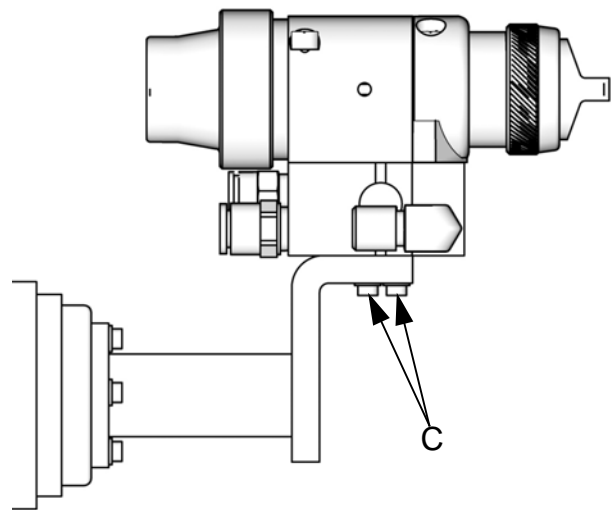

**FIG. 3: Reciprocating Arm Mount**
1. Insert the mounting bar (A) through the hole in the manifold as shown in FIG. 3.
**NOTE:** Use the 1/8 in. alignment pin (P) to assist in orienting the gun.
2. Secure the gun to the bar by tightening the mounting screw (B).